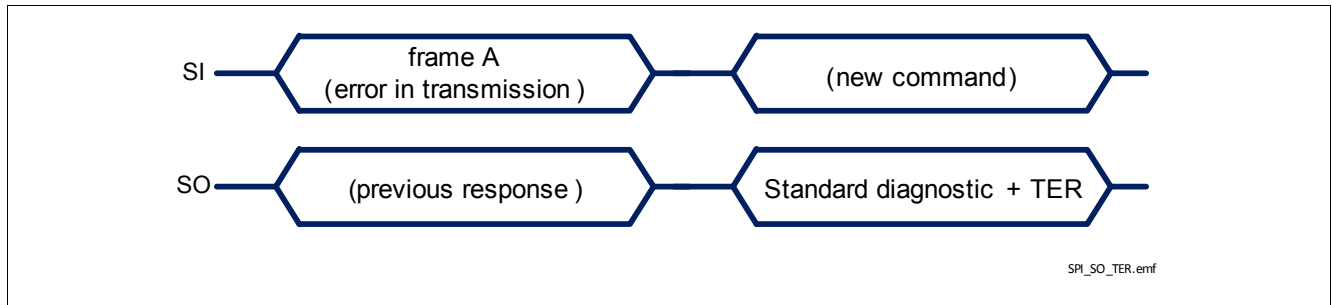

Figure 40 TLE75242-ESH response after a error in transmission
- in case an error in transmission happened during the previous frame (for instance, the clock pulses were not multiple of 8 with a minimum of 16 bits), shown in **Figure 40**